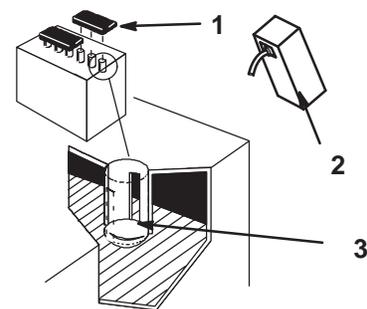

Figure 2
4. Remove filler caps from the battery. Slowly pour electrolyte into each cell until the electrolyte level is up to the lower part of the tube (Fig. 2).
7. Slowly pour electrolyte into each cell until the level is once again up to the upper line on the battery case (Fig. 2) and install covers.